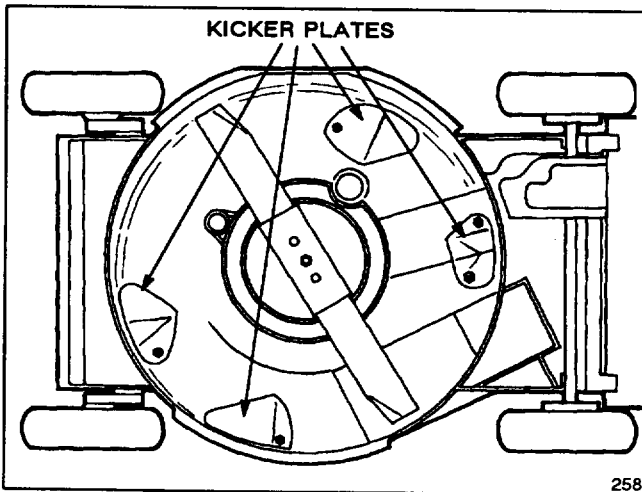

Figure 31
Keep underside of mower housing clean. Be especially careful to keep kickers on underside of mower housing free of debris (Fig. 31).
3. Tip mower on its right side (Fig. 31). Avoid rotating blade because starting problems may result.